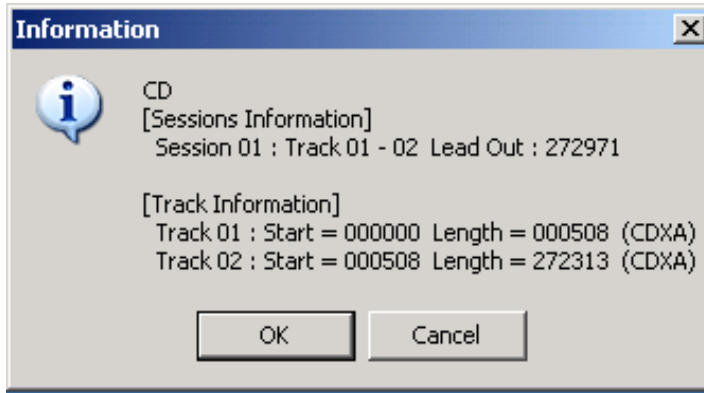

Figure 4
5. After clicking on “Open” you will come to Fig. 4 and see the file details.